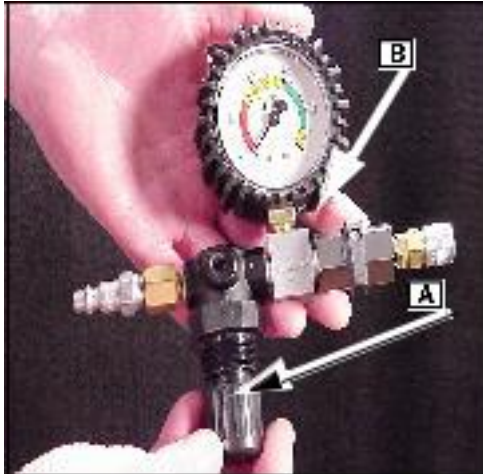

Fig. 3
Pull out the regulator adjustment knob (A) and turn knob counterclockwise as far as it will go. Make sure air outlet valve ([B] Fig. 3) is closed.